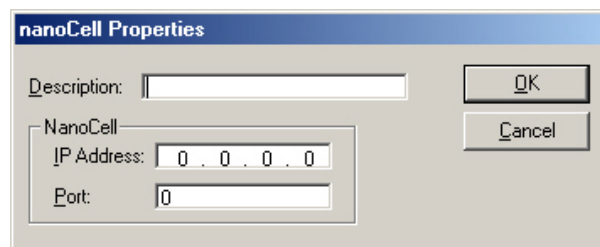

Figure 10. Properties Dialog Box
- f. From the drop-down menu, select ADD. This brings of the dialog box as shown in Figure 10.